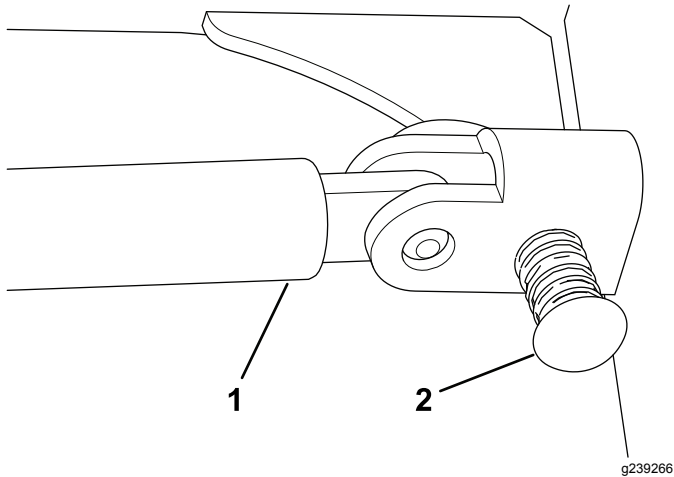
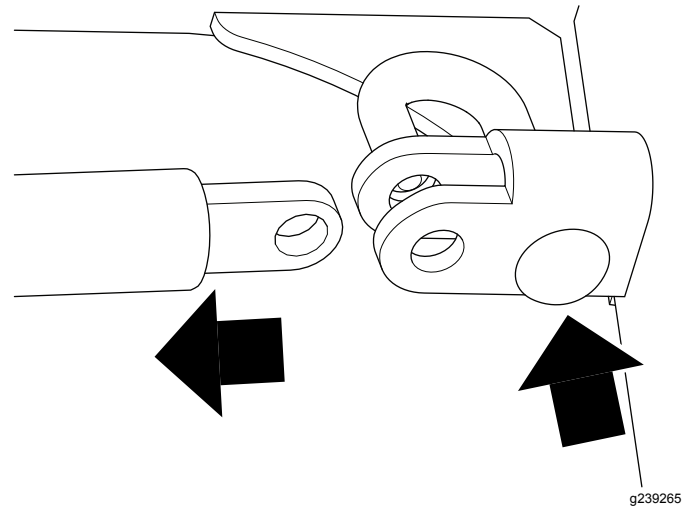

Figure 12
Figure 13
1. Push the spring pin up and pull the strut out of the bracket (Figure 12 and Figure 13).